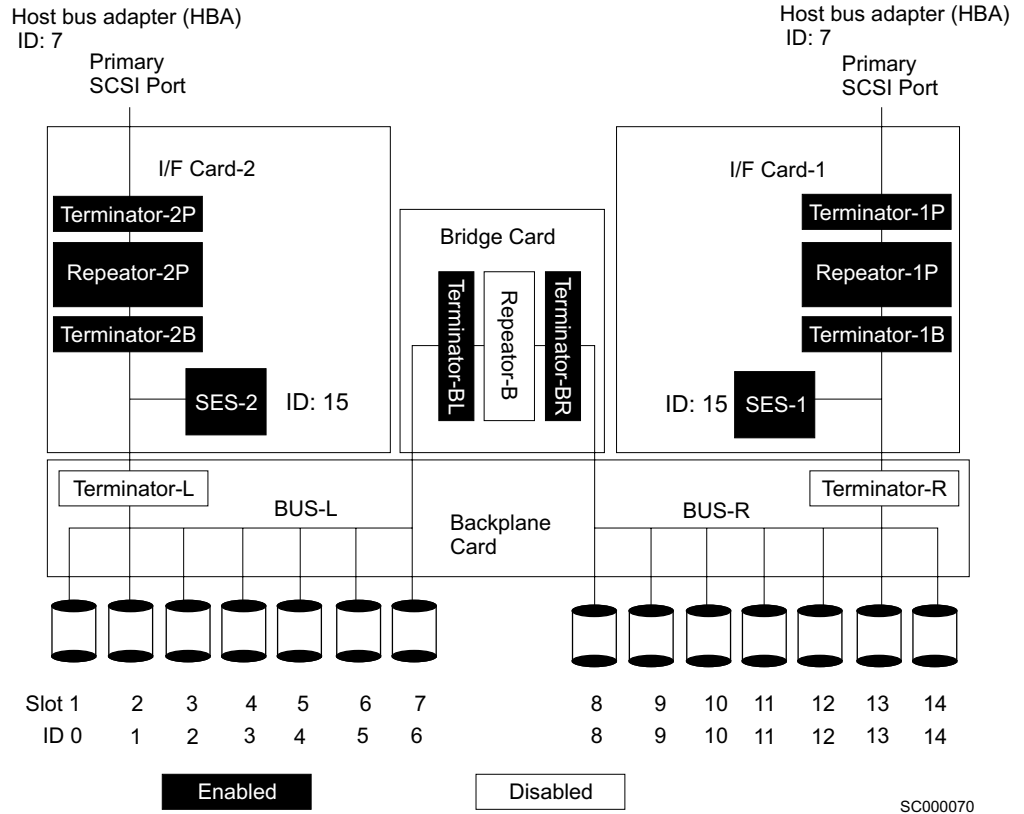

Figure 6. Dual bus, two initiators, 14 (2 x 7) disk drive modules
- Dual bus, two initiators (SCSI IDs 7 (x2), 2 groups of 7 disk drive modules (SCSI IDs 0 through 6, and 8 through 14). See Figure 6 on page 11.